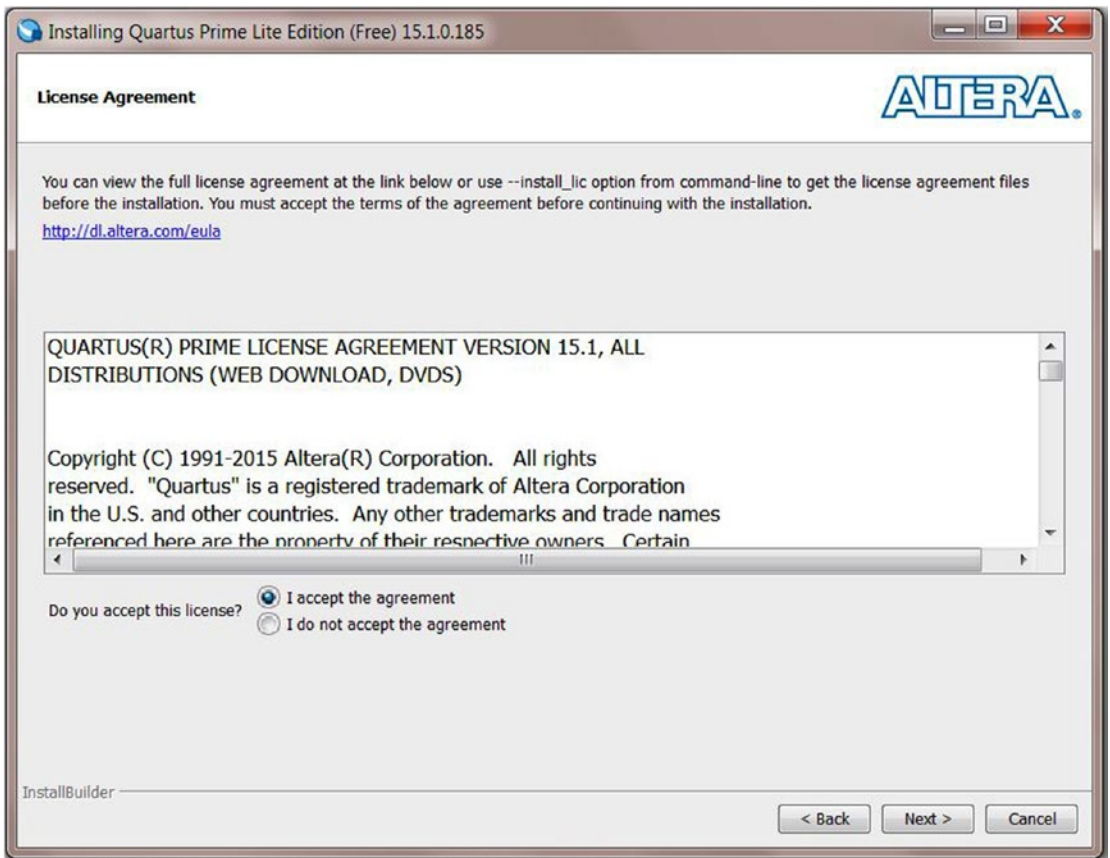

Figure 3-11. License Agreement
2. Click “I accept the agreement” and then click *Next* (Figure 3-11).